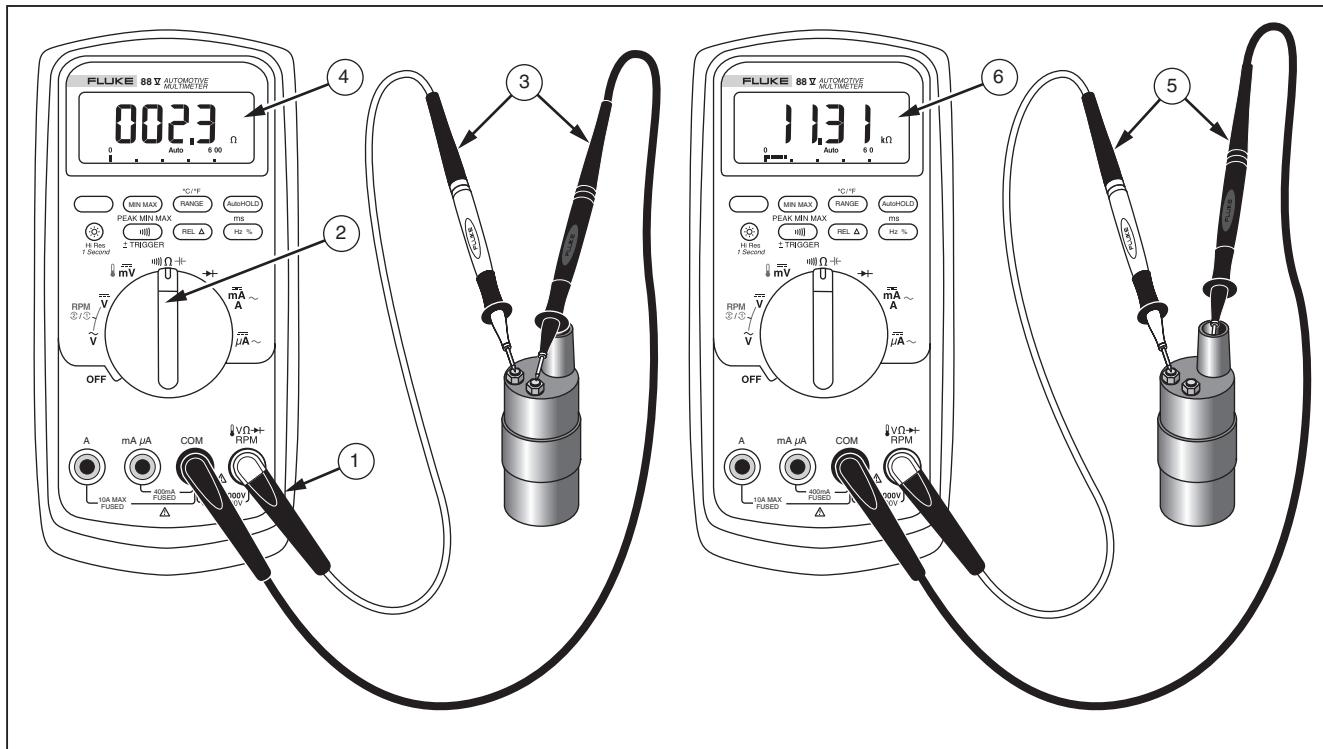

Figure 11. Measuring Internal Resistance on an Ignition Coil
1. Insert test leads in the input terminals shown in Figure 11.